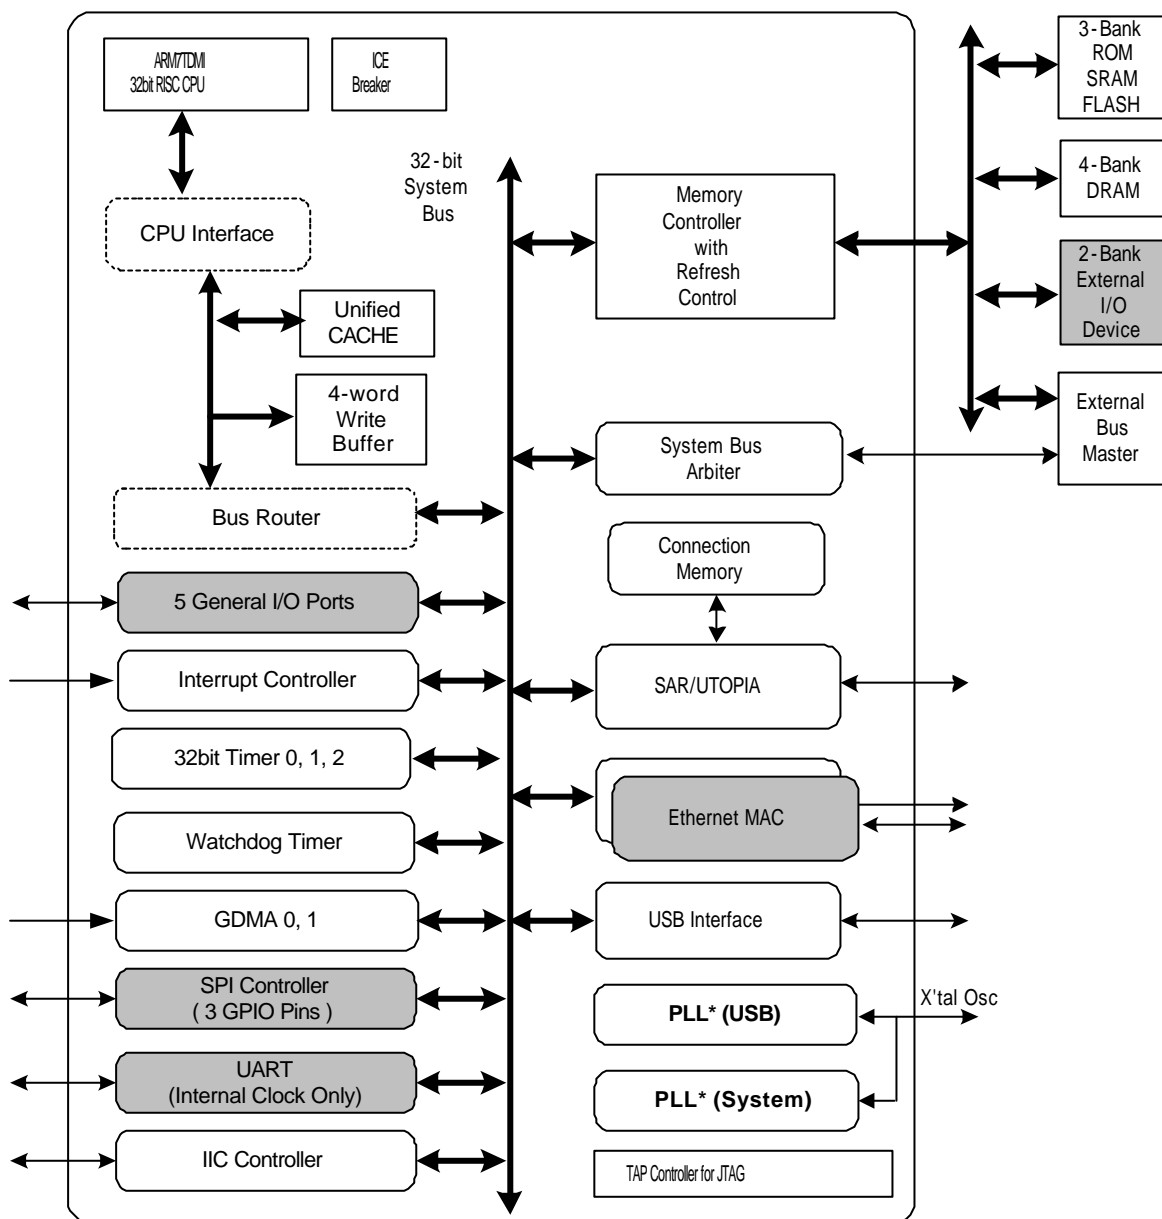

Figure 2 Top Block Diagram: Mode 2
- ✓ Under-bar in the Figure 2 means the muxing pins.